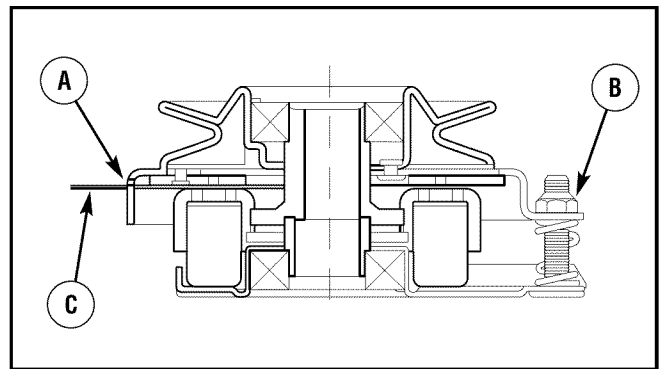

Figure 26: PTO clutch adjustment
3. Insert a .016"-.018" (0,40-0,45mm) feeler gauge (C, Figure 26) through each window, positioning the gauge between the rotor face and the armature face as shown.
4. Alternately tighten the adjustment nuts (B) until the rotor face and armature face just contacts the gauge.